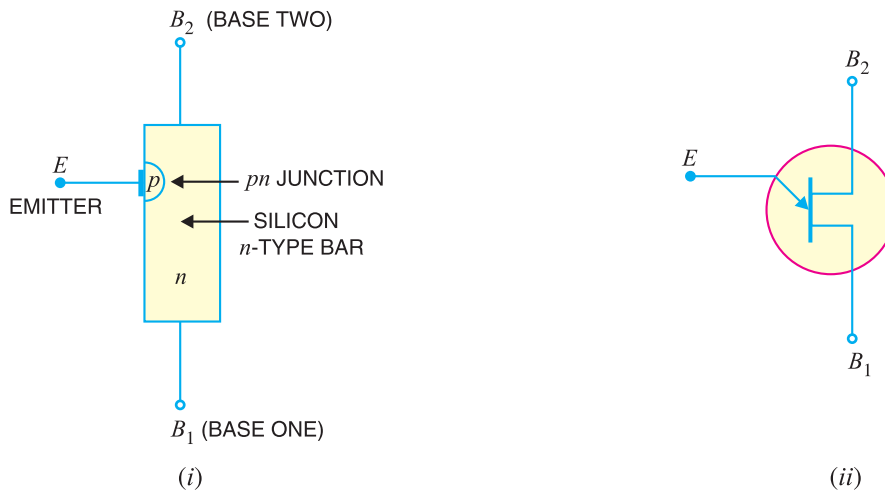

Fig. 21.24
**Construction.** Fig. 21.24 (i) shows the basic structure of a unijunction transistor. It consists of an *n*-type silicon bar with an electrical connection on each end. The leads to these connections are
called base leads *base-one*  $B_1$  and *base two*  $B_2$ . Part way along the bar between the two bases, nearer to  $B_2$  than  $B_1$ , a *pn* junction is formed between a *p*-type emitter and the bar. The lead to this junction is called the *emitter lead*  $E$ . Fig. 21.24 (ii) shows the symbol of unijunction transistor. Note that emitter is shown closer to  $B_2$  than  $B_1$ . The following points are worth noting :